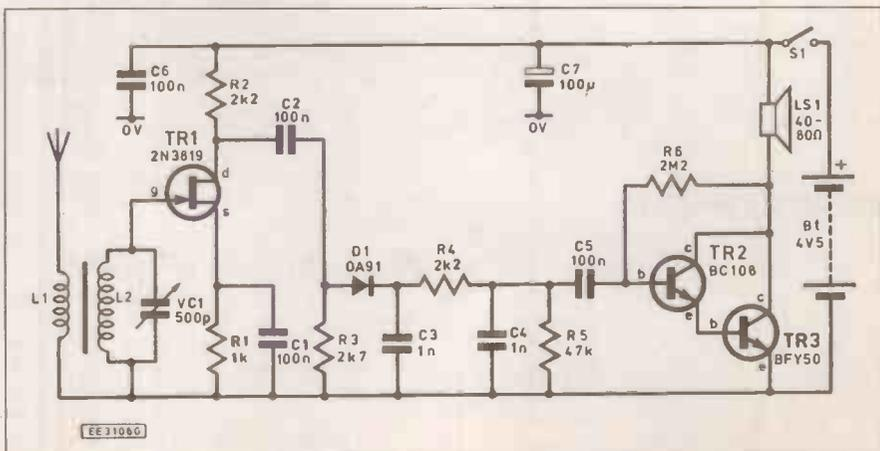
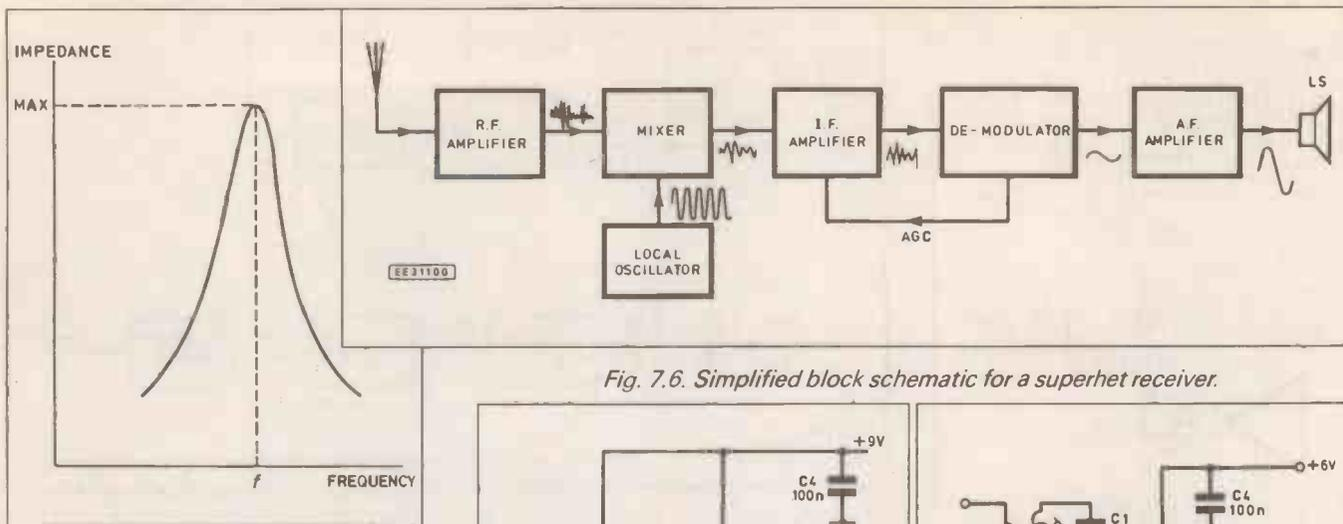

Fig. 7.4. A simple tuned radio frequency (TRF) receiver.
Fig. 7.5. Impedance/frequency characteristic for a parallel tuned circuit.
A simple tuned radio frequency (TRF) radio receiver is shown in Fig. 7.4. This circuit employs a parallel tuned circuit (L2, VC1) input stage which exhibits the impedance/frequency characteristic shown in Fig. 7.5. Maximum gain occurs at the frequency of resonance of the circuit which is approximately given by:
In the circuit of Fig. 7.4, TR1 acts as
**Question 4:** The circuit of Fig. 7.4 is to be built using an inductor of 220 $\mu$ H and a capacitor which has minimum and maximum values of 50p and 500p, respectively. Determine the tuning range for the receiver.